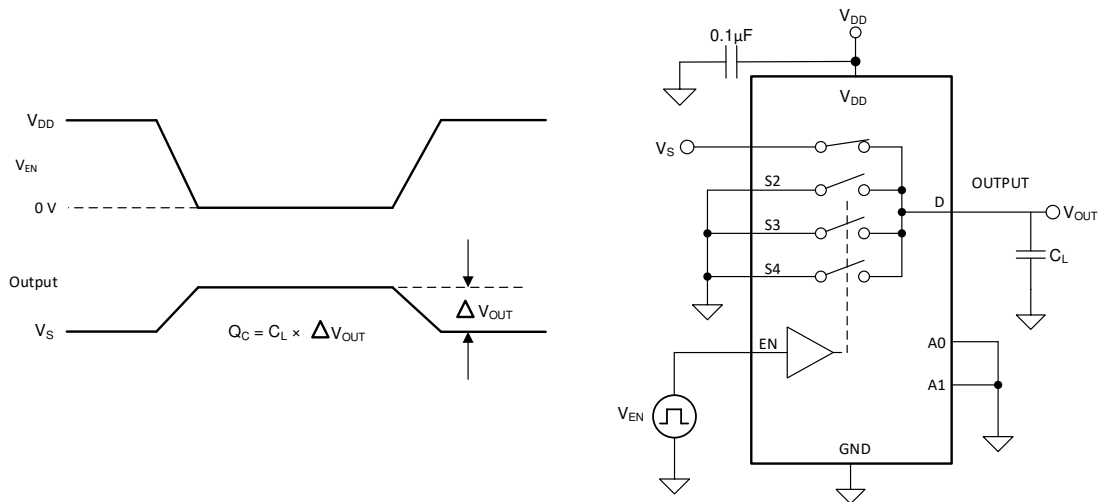

图 6-7. Charge-Injection Measurement Setup
The TMUX1104 has a transmission-gate topology. Any mismatch in capacitance between the NMOS and PMOS transistors results in a charge injected into the drain or source during the falling or rising edge of the gate signal. The amount of charge injected into the source or drain of the device is known as charge injection, and is denoted by the symbol  $Q_C$ . 图 6-7 shows the setup used to measure charge injection from source (Sx) to drain (D).